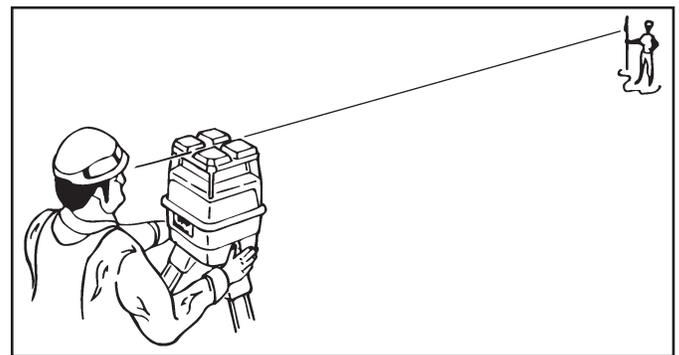

Figure 23. Sight over Rotating Laser
5. Roughly align one of the axis to the grade stakes by sighting over the top of the Rotating Laser (Refer to Figure 23).
4. Roughly align one of the axis to the grade stakes by sighting over the top of the Rotating Laser (Refer to Figure 23).